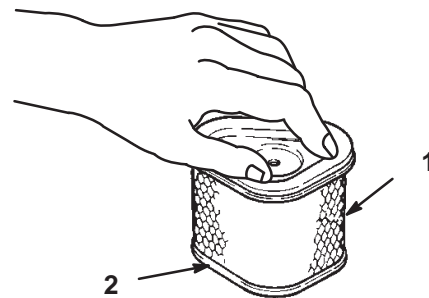

Figure 28
1. Lightly tap the element on a flat surface to remove dust and dirt (Fig. 28).